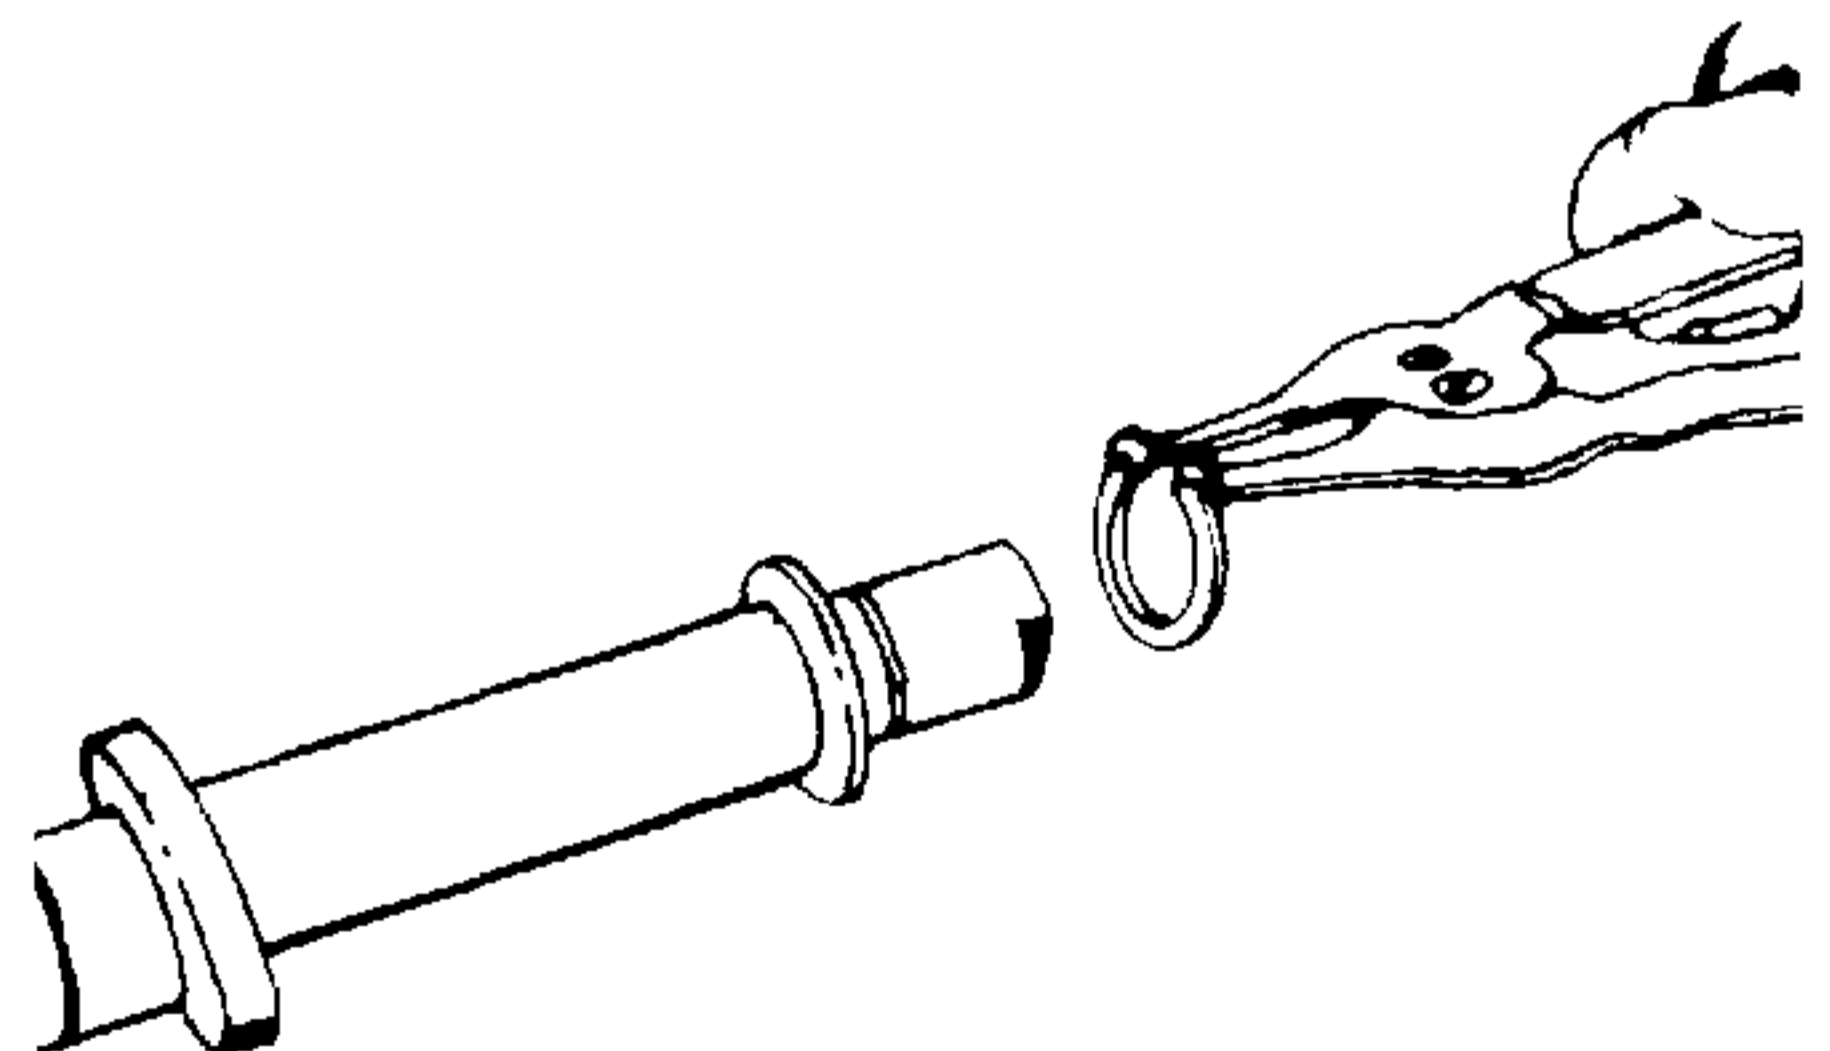

Figure 4-49. Installing Retaining Ring.
4. Install retaining ring (32, Figure 4-1) onto input shaft assembly (31) using the appropriate external retaining ring pliers. See Figure 4-49.